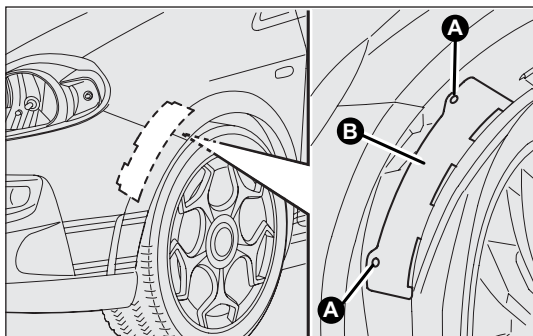

fig. 140
### Front fig. 140
- unscrew the catch A-fig. 140, then lift off the access lid B;
- close the flap B-fig.140 then screw in the catch A.